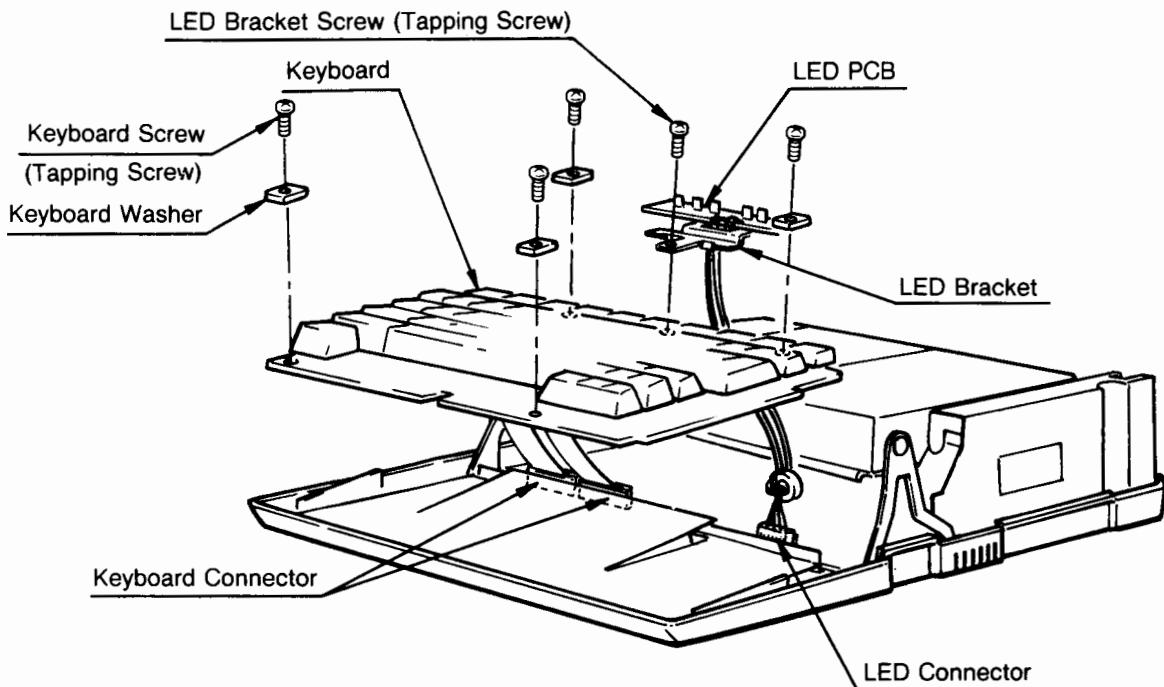

Figure 2-11. LEC PCB and Keyboard Removal
- (1) Remove four Keyboard screws. (Figure 2-11)
- (2) Remove the LED Bracket screw.
- (3) Remove the LED connector from the Main PCB and remove the LED unit.
- (4) Remove two Keyboard connectors from the Main PCB and remove the keyboard.